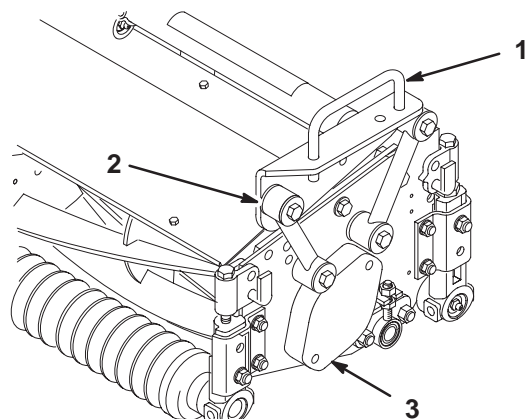
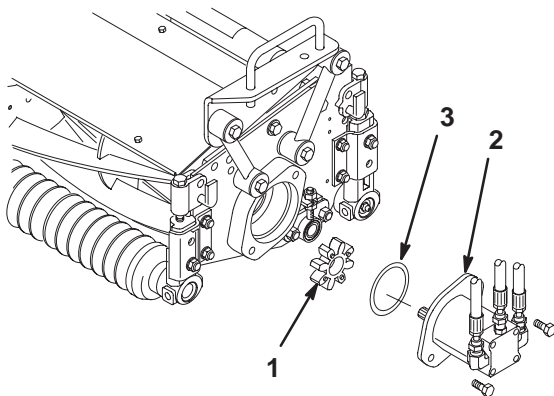

Figure 5
Figure 9
2. Position a carrier frame onto each cutting unit, aligning the mounting holes with the mounting links (Fig. 5).
3. Secure each mounting link to the carrier frame with a capscrew (3/8 x 2-1/4 in.), 2 flat washers, and a locknut, as shown in Figure 5. Position a washer on each side of the link when mounting. Torque to 31 ft.-lb. (42 N-m).
2. Remove the bearing housing cover (Fig. 5) from the inside end of the right-hand cutting unit. Install the cover and gasket (supplied with the cutting unit) on the outside end. Locate the spider coupling (Fig. 9) shipped in the bearing housing.
3. Insert the O-ring (supplied with the cutting unit) on the flange of the drive motor (Fig. 9).
4. Mount the motor and the spider coupling to the drive end of the cutting unit and secure them with 2 capscrews provided with the cutting unit (Fig. 9).